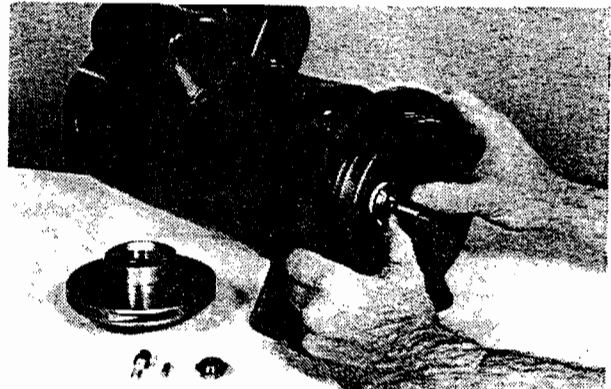

FIG. 8
- (c) Install rotating element of seal on shaft (Fig. 8), be sure the lapped sealing surface is toward seal seat, and assemble impeller. Check diameter of impeller against motor horsepower rating to insure proper performance (Fig. 5).